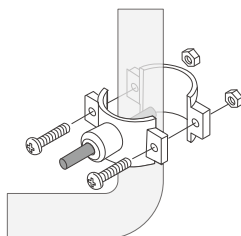

Figure 9
c. Slip the front plate on one end of the tubing (without a mark) and insert the tubing into the drilled hole for about 0.6". **(Figure 9)**